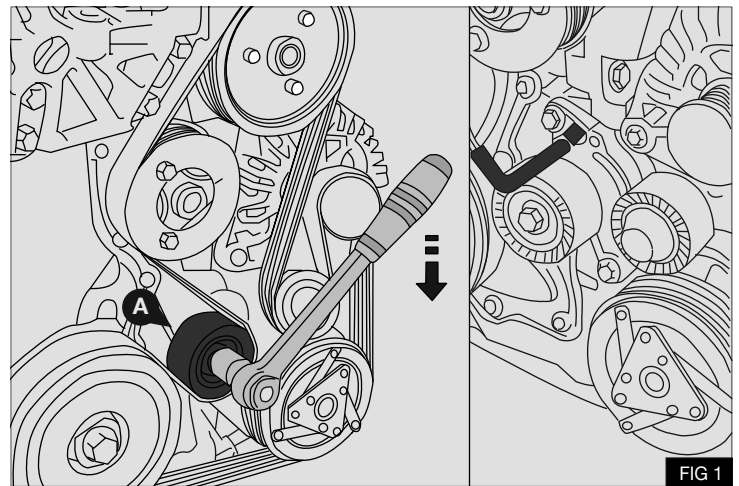

FIG 1
2. Turn the Automatic belt tensioner (A) fully clockwise. Insert a 3mm locking pin to hold in the fully open position. Remove and retain the original drive belt (B) - Fig 1